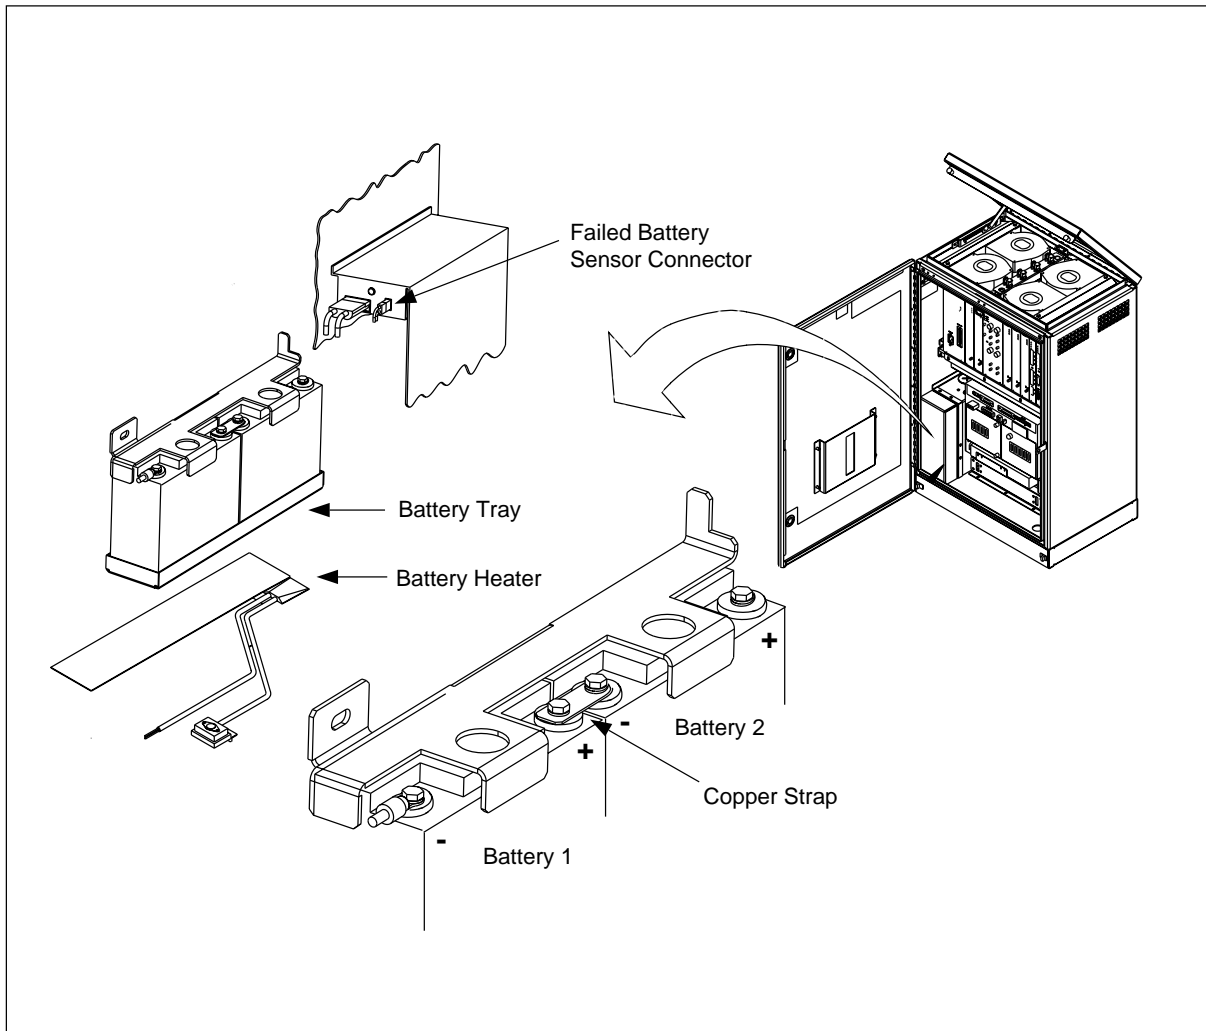

Figure 4-11. Battery Installation in Cabinet
5. Install the batteries into the battery tray as illustrated in Figure 4-11 on page 4-25. Attach the hold-down bracket to the battery tray.
6. Connect the center terminals (positive terminal of battery 1 to negative terminal of battery 2) with the copper strap. Do not tighten the negative terminal of battery 2 at this time. See Figure 4-11 on page 4-25
- Connect the 8-gauge red cable to the positive terminal (+) of battery 2. See Figure 4-11 on page 4-25.